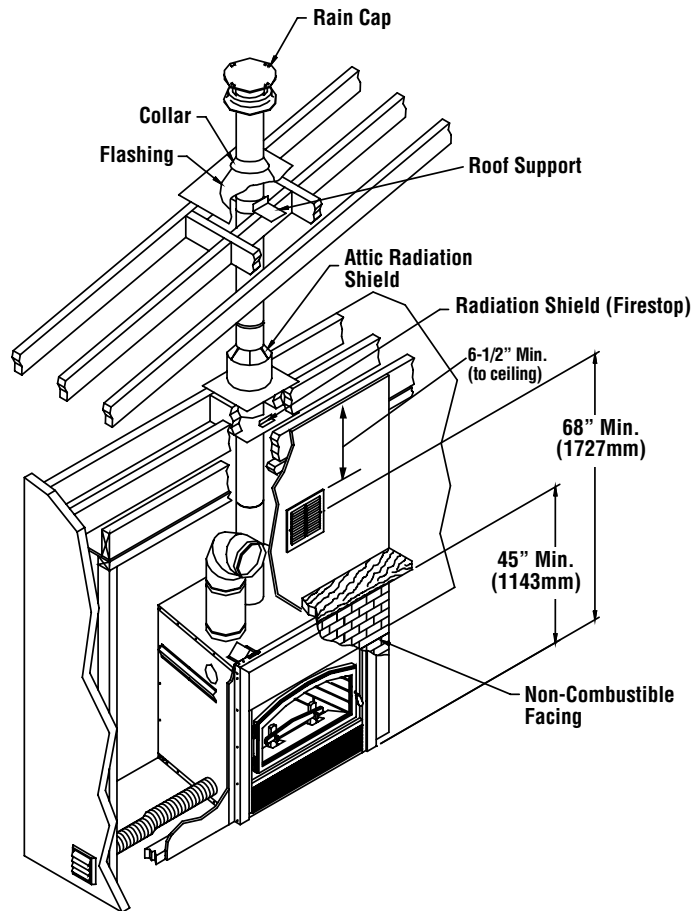

Figure 14
- The fireplace facade can be covered with non-combustible material (**Figure 14**).